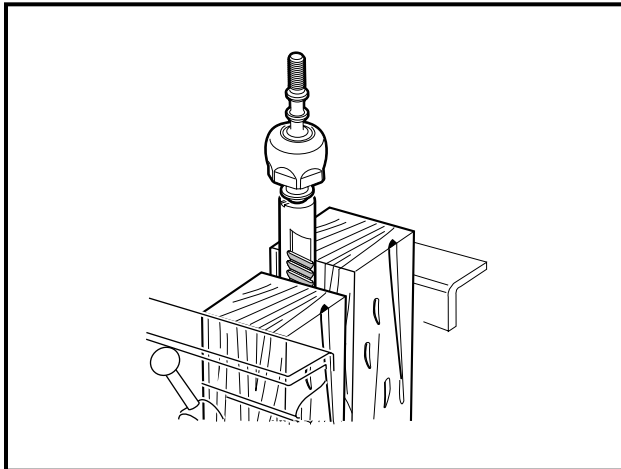

Figure 7-18 Remove Rack
- 13.1. Secure the rack in a vise (**Figure 7-18, Page 7-10**). Use wood blocks between the rack and the jaws of the vise to protect the rack from damage.